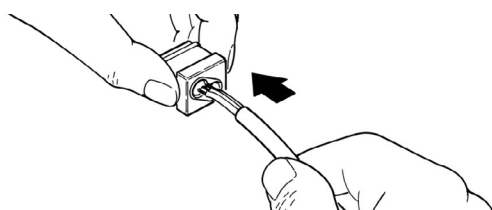

Fig. 3
- 5 Thread the two cables through the holes in the cable holding "cap" as shown in figure 3.